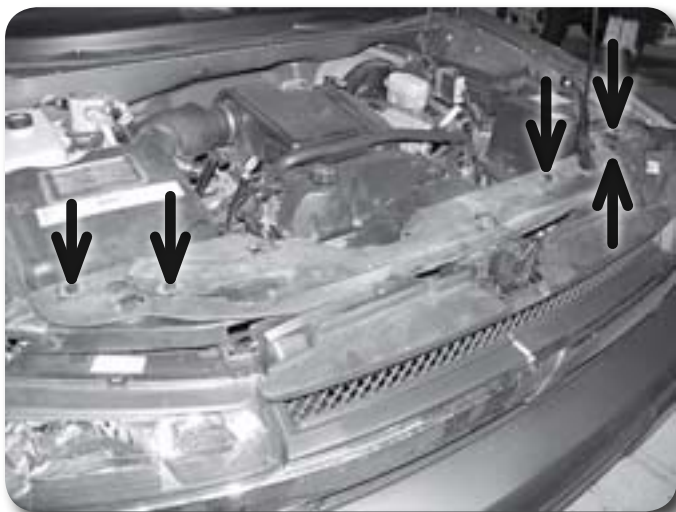

Figure 10
14. Remove the plastic clips from the plastic core support cover Figure 10. Remove the cover from the core support. Save cover and clips.